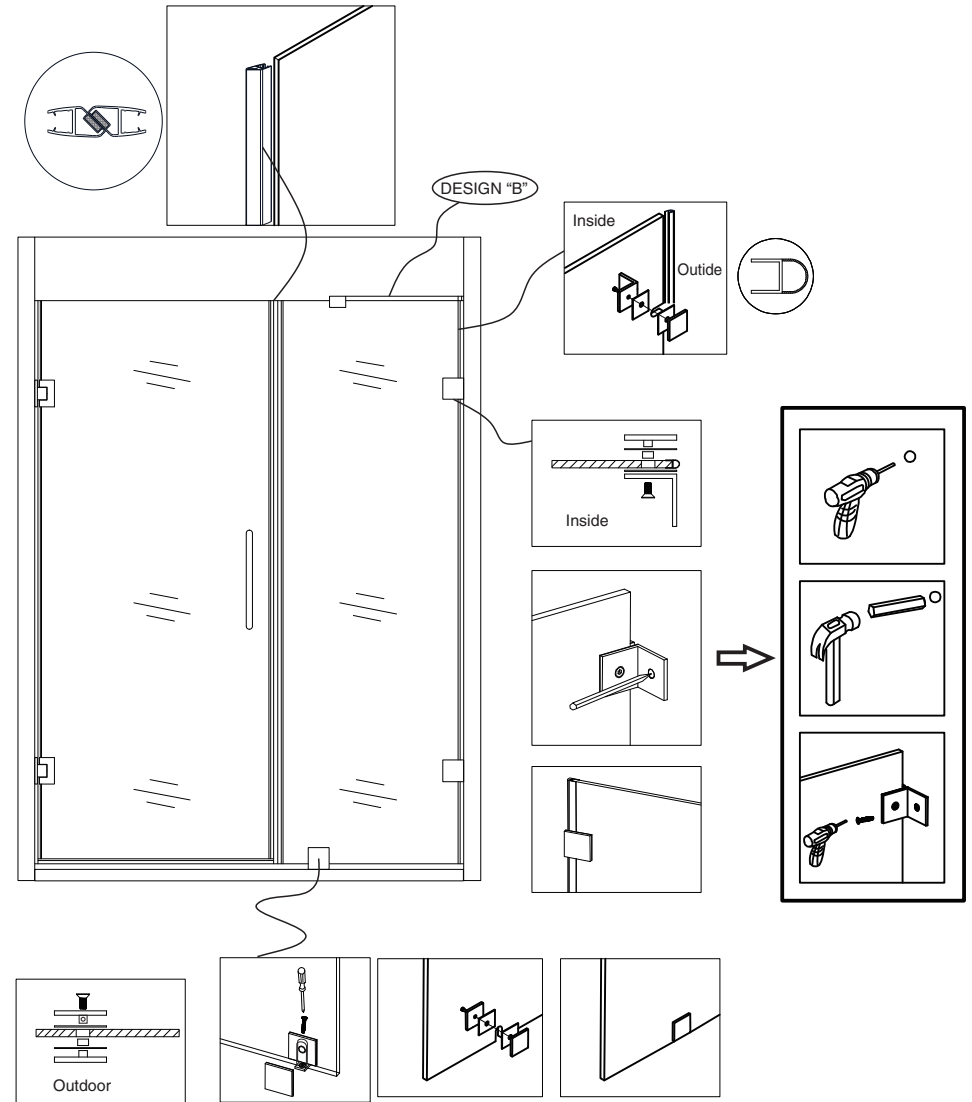

Fig. 4
4.Replace the Glass Panel (8) into its proper spot and position it tightly up to the Wall Bracket (13) and bottom clip(16).Refer to Figure4 for details.